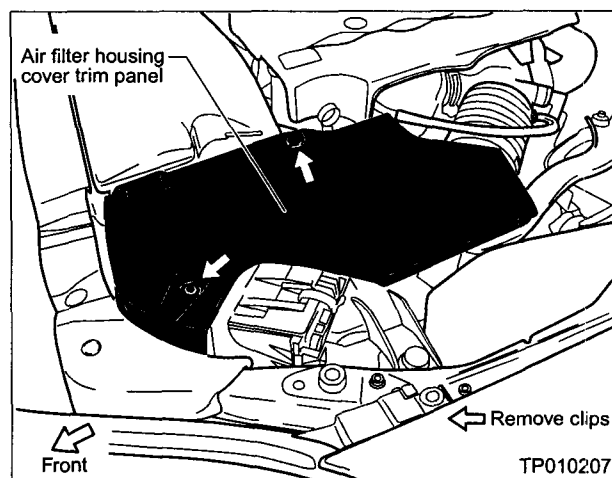

Figure 2
1. Remove two clips and remove the air filter housing cover trim panel (see Figure 2).